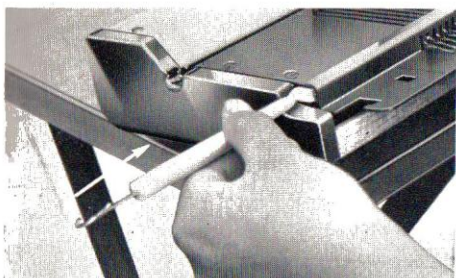

Fig. 1
- 1) Push either side of the felt bar and piece with the end of latch tool. The felt bar end then appears on the side. (See Fig. 1.)